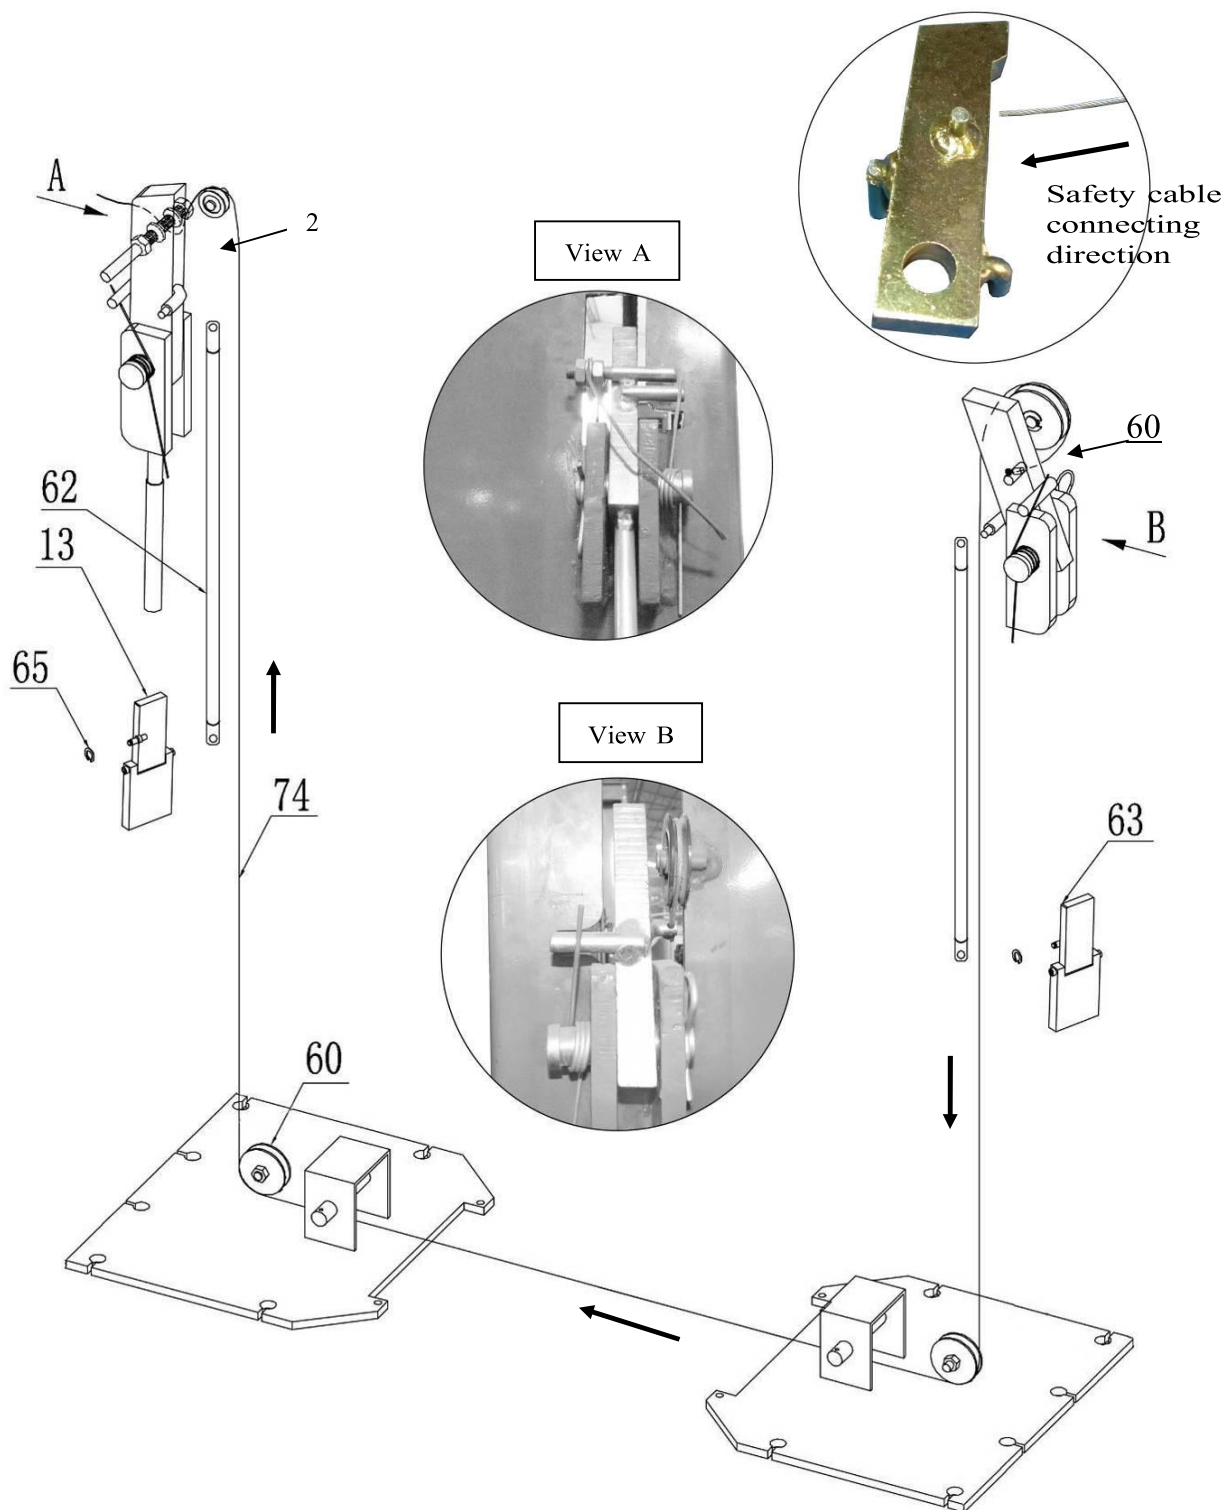

Fig. 21
L. Install safety device and safety cable (See Fig. 21).